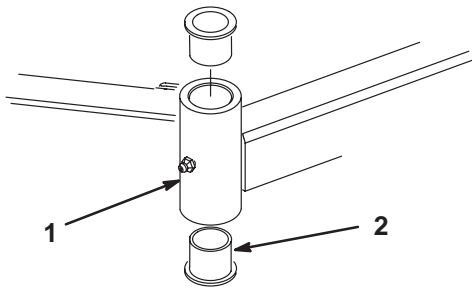

Figure 83
4. Insert a pin punch into the top or bottom of the mounting tube and drive the bushing out of the tube (Fig. 83). Also drive the other bushing out of the tube. Clean the inside of the tubes to remove dirt.